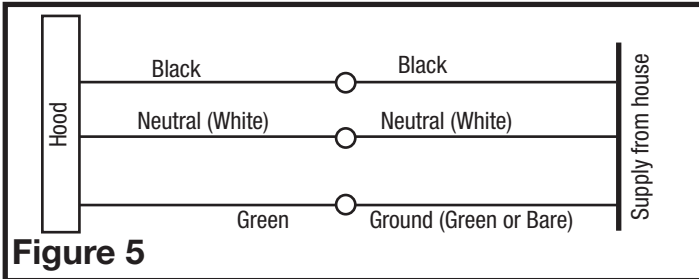

Figure 5
3. Examine the wire compartment cover and select the most convenient wire entrance and remove the knock out. Feed the supply wire through the opening and install an appropriate strain relief. Connect the white wire from the power unit to the white wire from the supply. Connect the black wire from the power unit to the black wire of the supply. Connect the ground wire from the home (green or bare) to the ground wire of the power unit (green or green/yellow). Use approved methods for all connections (Figure 5).